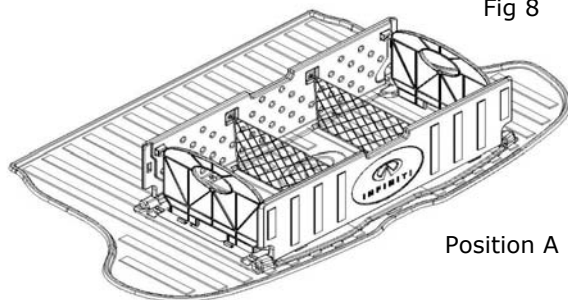

Fig 8
- a) With the Cargo Tray, there are (2) positions in which the Cargo Organizer can be installed (see Fig 8 & 9).